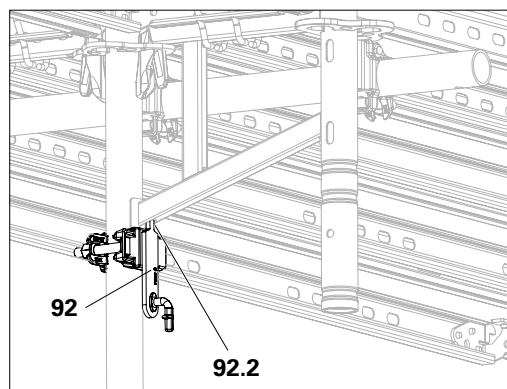

Fig. A6.12
1. Fit Guardrail Coupling EPW (**92**) with lug (**92.2**) facing upwards. Nose must engage in the brace of the console bracket. (Fig. A6.12)